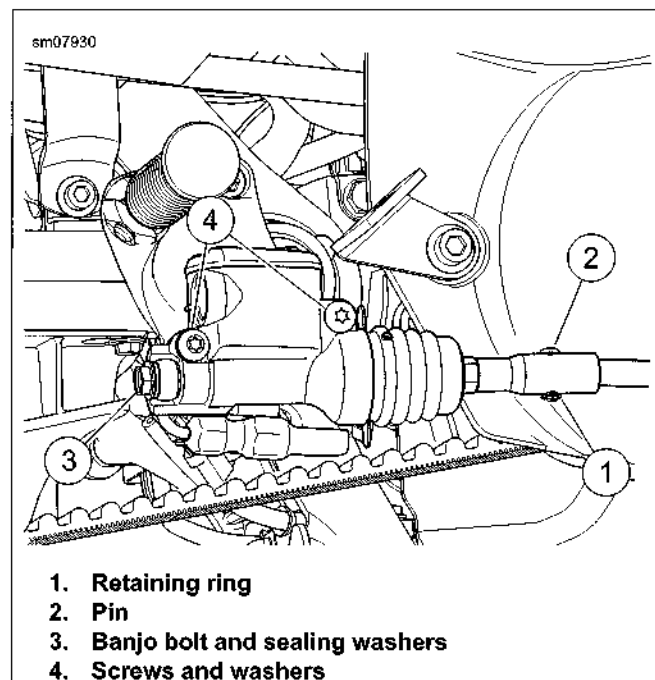

Figure 2-65. Rear Master Cylinder/Reservoir
4. See Figure 2-65. Remove retaining ring (1) and brake rod pin (2).
5. Remove banjo bolt (3) and sealing washers. Discard sealing washers.